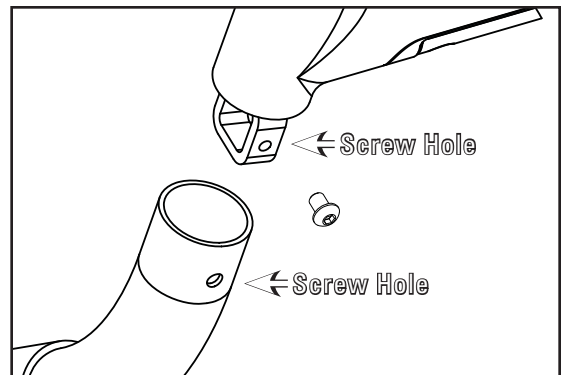

Figure 16
**9-3** Take hold of one of the handrails and slide the upper end into the lower part of the handlebar weldment and line up the screw holes (see Figure 16).